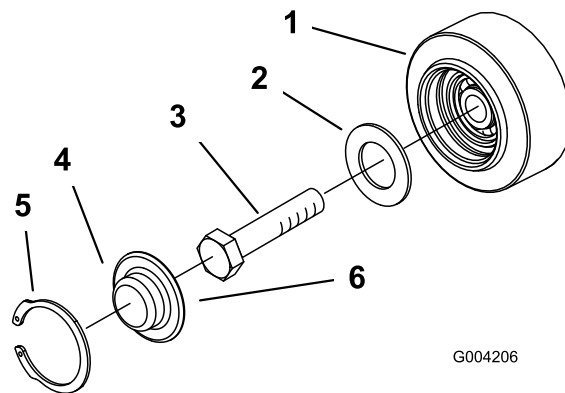

**Figure 44**
4. Using a 1/2 inch drive socket wrench, release the drive tension by turning the tensioning screw clockwise (Figure 42 and Figure 44).
5. Push the tension wheel toward the rear of the unit to move the tension tube against the frame (Figure 44). (If it does not touch the frame, continue turning the tensioning screw until it does.)
6. Remove the nut securing the outer tension wheel and remove the wheel (Figure 44).
7. Remove the track (Figure 44).
8. Remove the nut securing the inner tension wheel and remove the wheel (Figure 44).
12. Install the inner tension wheel and secure it with the nut removed previously (Figure 44).
14. Install the new track, ensuring that the lugs in the track fit between the cogs in the middle of the drive sprocket (Figure 44).
15. Install the outer tension wheel and secure it with the nut removed previously (Figure 44).